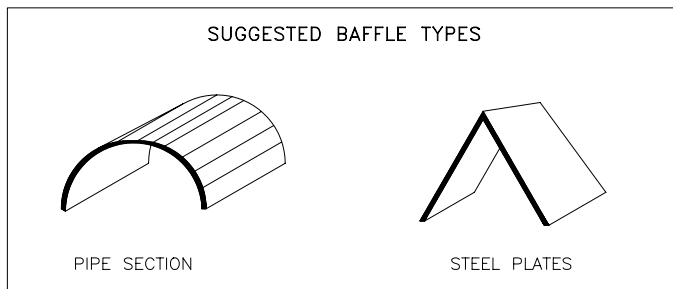

Figure 2
**Protective Baffles:** (see Figure 2)